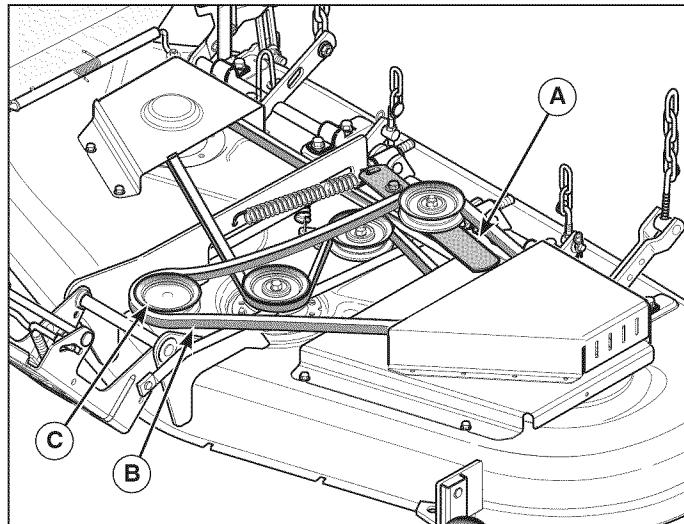

Figure 17
4. Pull the idler pulley lever (A, Figure 17) to release belt tension. Remove the belt (B) from the PTO pulley (C).
7. Pull the idler pulley lever (**A**, Figure 17) to release belt tension. Install the belt (**B**) on the PTO pulley (**C**).